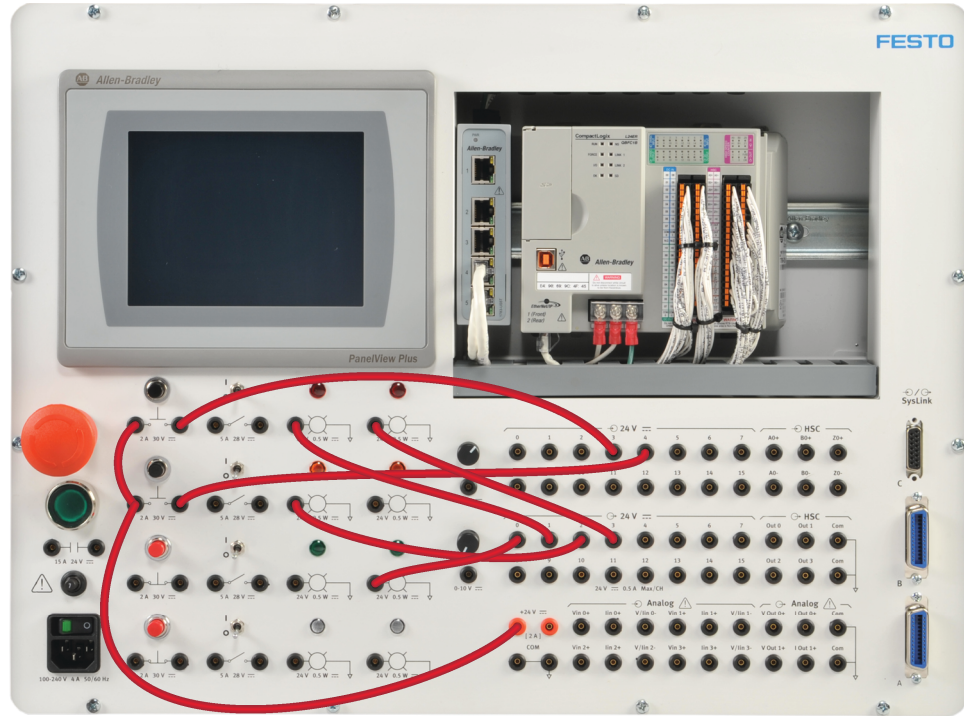

Figure 93. Clamp and stamp setup (virtual application).
1. Connect the equipment as shown in Figure 93. The tags used in this exercise are shown in Figure 94.